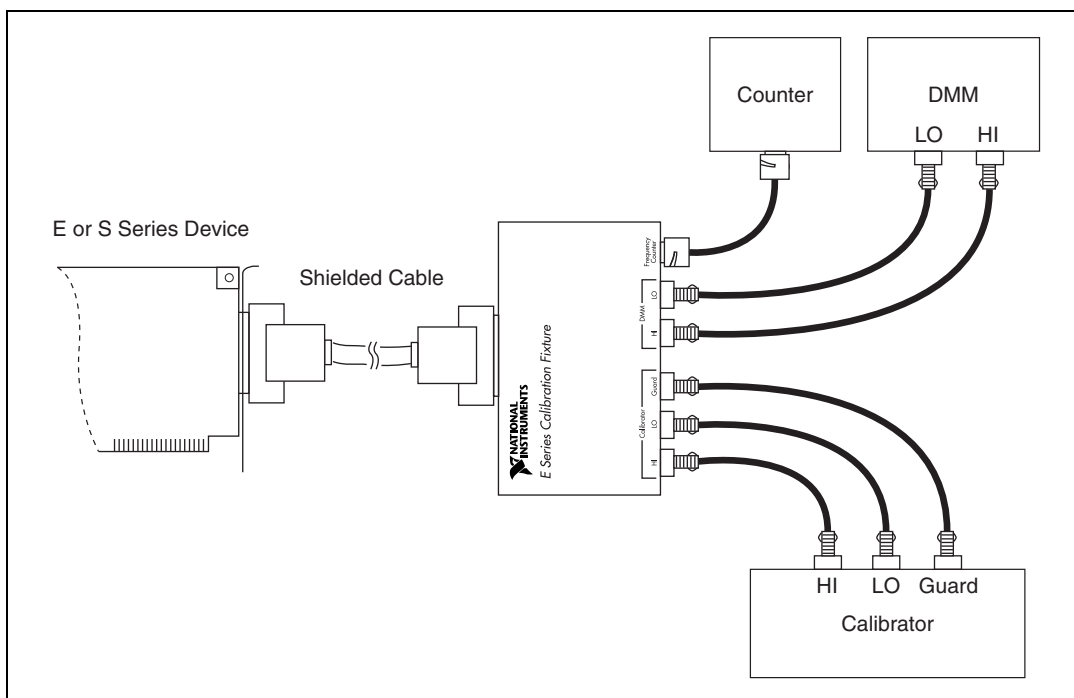

Figure 2. Calibration Fixture Connections for a Calibrator with a Guard Terminal
3. If the calibrator has a guard terminal, connect it to the guard input of the calibration fixture. Refer to Figure 2 for an illustration of this connection configuration.